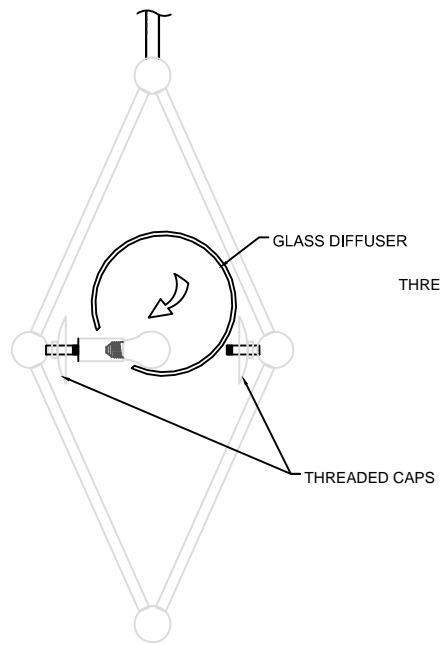

FIGURE-05
10. Place the glass to the fixture, slide it through the lamp. (See Figure -05)